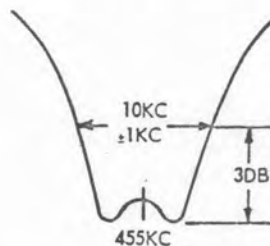

Figure 5-11
b. Using the calibrated 455-kc marker as a reference, tune L605 and L606 for a symmetrical response curve as shown in figure 5-11.
f. Tune L601, L602, and L603 for a maximum amplitude curve similar to that shown in figure 5-11 except centered about the 21.4-mc marker instead of 455 kc.